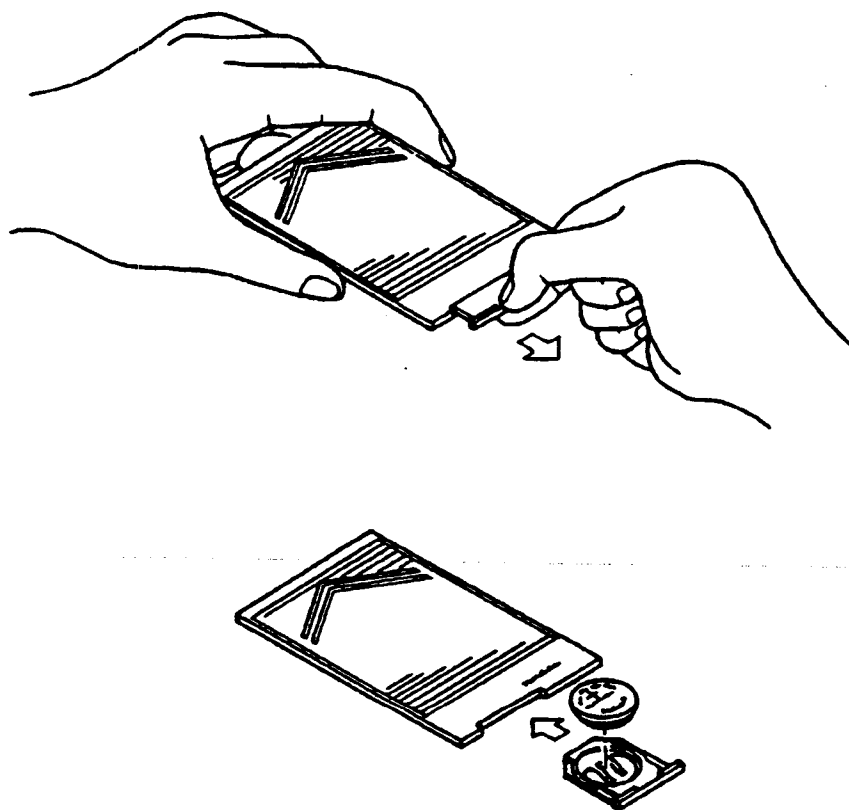

Figure 6.32
- (1) Hold the IC memory card so that the side which shows the part number faces upward.
- (2) Place your finger nail in the battery holder groove and pull it forward to take out the battery holder (Figure 6.32).
- (3) Insert a new battery (B9586JU or B9586JV : optional) into the battery holder.
- (4) Insert the battery holder into the IC memory card.